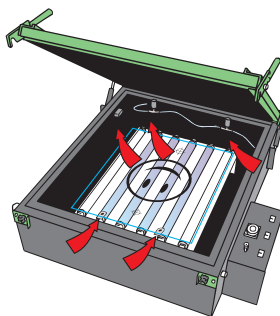

Figure 20: Insert the first sheet with the positive onto the pins of the Exposit screen exposure unit. Note the screen stops register pins.
5. If you have a Vastex exposing unit, take one of the carrier sheets with its positive and snap it onto a matching set of pins on the exposing unit. There are three stops built into the glass of the exposing unit for locating the screen. (Figure 20, page 19)